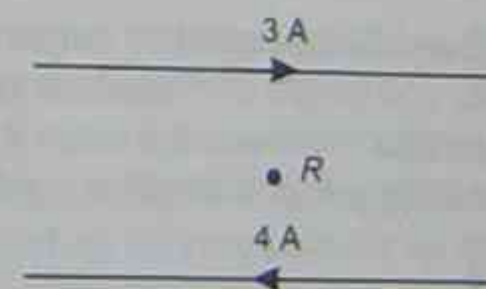

Figure 2.49
- 1 Two parallel wires carry currents of 3 A and 4 A respectively as shown in Figure 2.49.